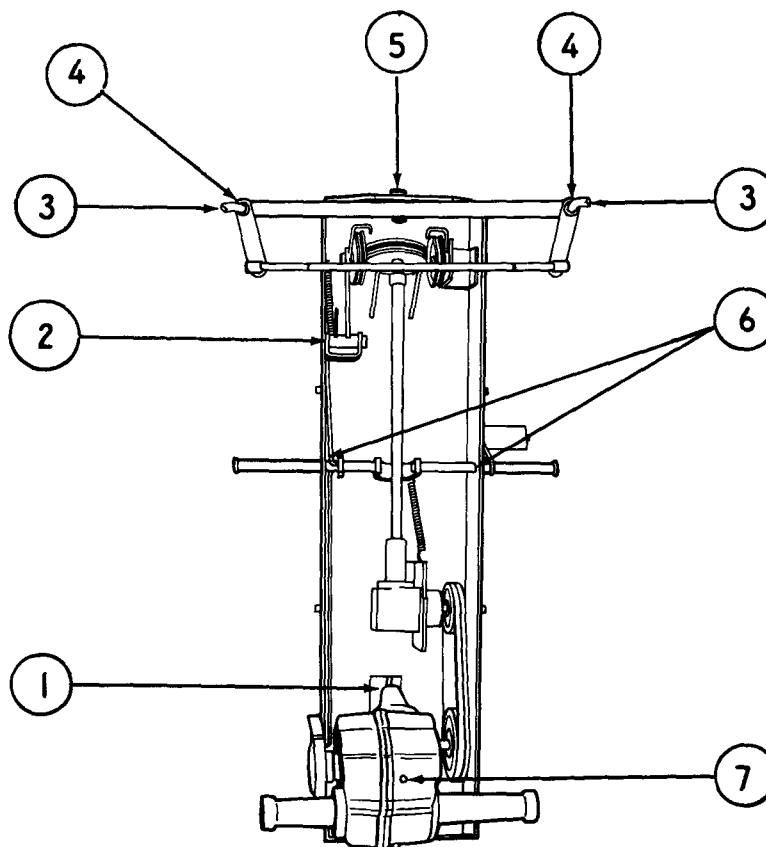

Figure 8. LUBRICATION POINTS
2. When lubricating the underside of the tractor chassis, it may be necessary to tip the tractor over on its side. Lubricate the front wheels, kingpin axles and steering column through the grease fittings provided. (Oilite bearings are used in rear wheels and axle and need no lubrication.) See Lubrication Chart, Figure 8.